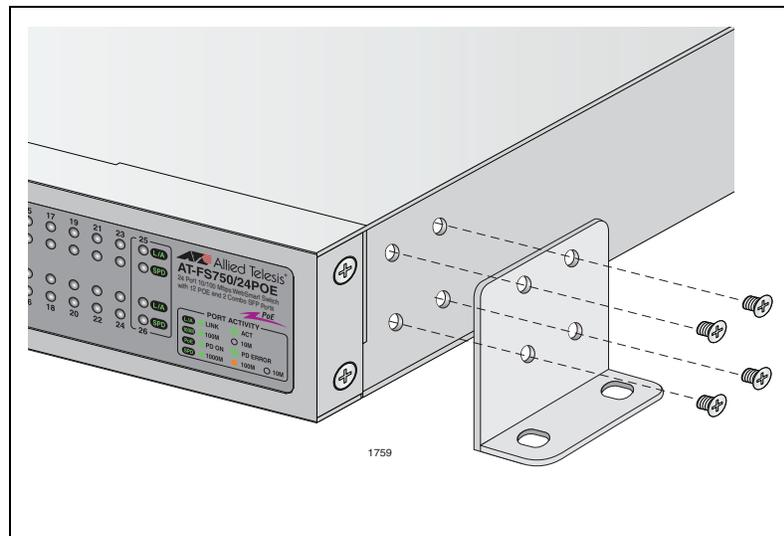

Figure 8. Attaching Brackets for Wall Mounting
2. Attach a mounting bracket to one side of the switch using four Phillips head screws that come with the switch, as shown in Figure 8.